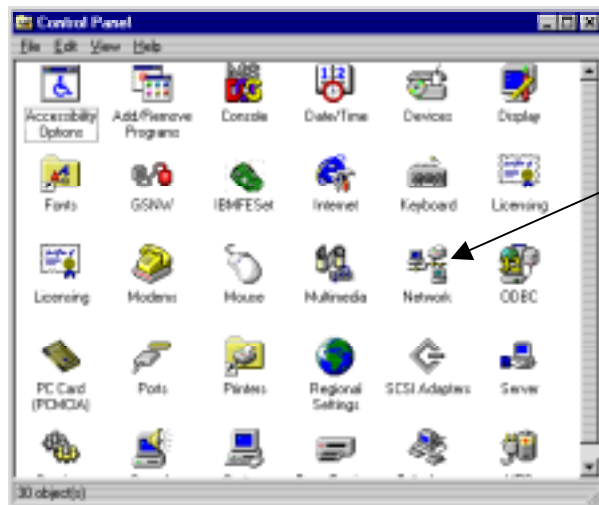

Figure 9-1. Network Icon on Control Panel
1. To begin the installation, click the Network Icon in the Windows NT Control Panel (Figure 9-1).